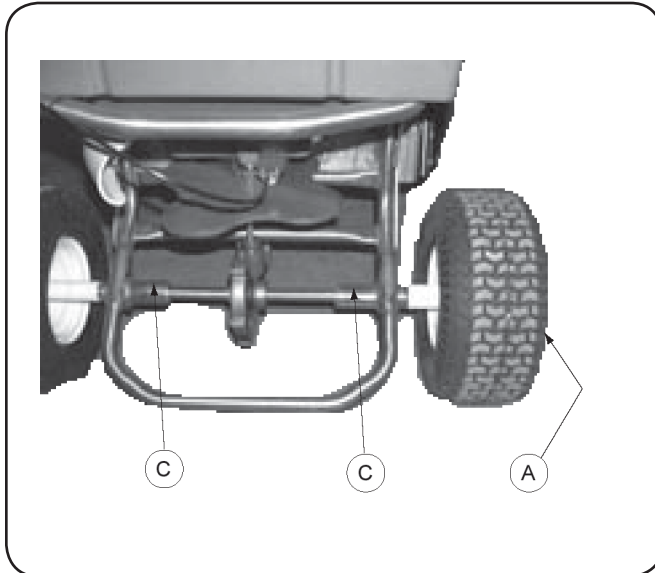

Figure 6-1
The front wheel bearings (A) and the front axle bearings (C) is equipped with grease fittings. See Fig. 6-1.